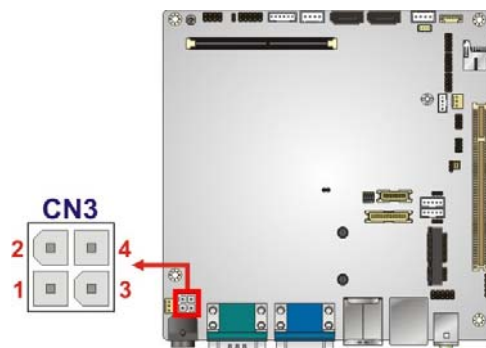

Figure 3-13: ATX Power Connector Location
- CN Location:** See **Figure 3-13**